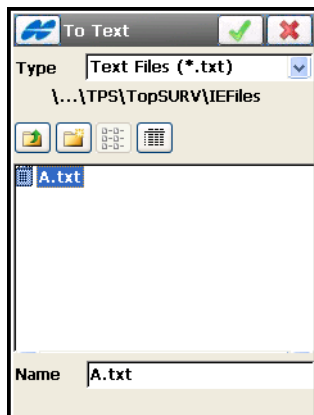

Figure 5-30. Select the File
4. When all data export conditions have been specified, a screen to choose the file opens (Figure 5-30). Using the Windows CE interface, browse for the file to export to or type the name of the file, and tap the ok  button.